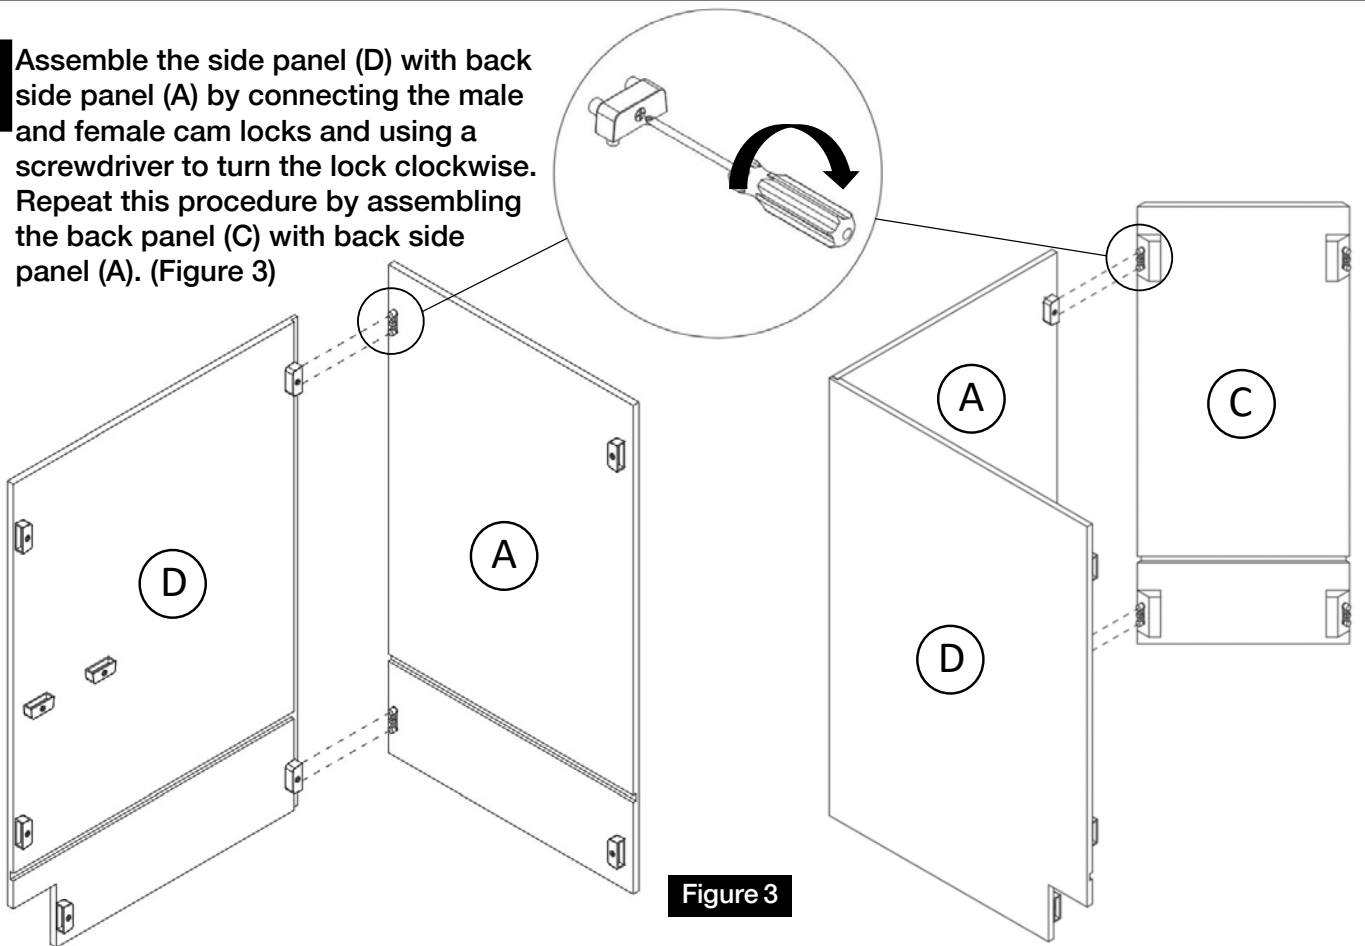

Figure 3
Assemble the side panel (D) with back side panel (A) by connecting the male and female cam locks and using a screwdriver to turn the lock clockwise. Repeat this procedure by assembling the back panel (C) with back side panel (A). (Figure 3)